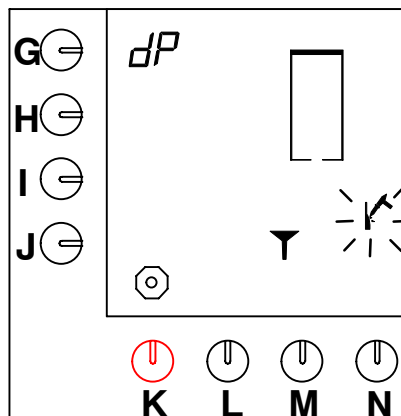

Fig. 23 Hot water system asks for descaler
- A signal sounds, the hammer symbol flashes and a funnel appears on the display (fig. 23).